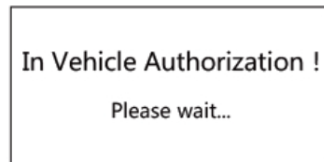
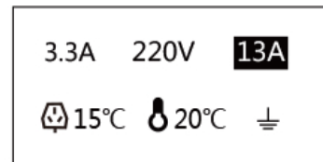

Figure 2
Figure 3
3. Connect the Type 2 plug to the vehicle. The charging process starts (Figure 2), then the LED goes into scrolling mode. During recharging, the display alternates between the different recharging parameters (Figure 3 and 4)